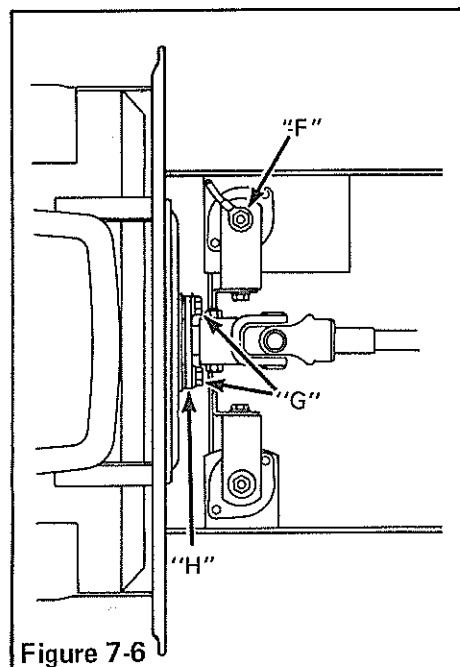

Figure 7-6
7. Remove R.H. rear engine mount bolt (F), Figure 7-6 & 7-7. Notice placement of star washer and negative battery cable.
8. Remove two bolts (G), Figure 7-6 securing engine hub to flywheel. Notice the flat washer between hub (H) and flywheel.
9. Scribe line on front engine supports and L.H. rear support along frame. Loosen two bolts (I) on each of the engine supports.
1. Set engine on R.H. rubber mount in rear. Lift engine and install (red) starter wire (K). Insert hub (H), Figure 7-6, of drive shaft into pilot hole in flywheel. Line up scribed line on front and rear engine supports with frame, insert two bolts (I) through each support. Secure mounts in place, holding with a gap of 1/2" (13 mm) between the bottom surface of the engine support and inside surface of the frame.
10. Unhook fuel tank strap and raise fuel tank to provide access to shut off valve. Close shut off valve (M) on bottom of tank.
11. Disconnect fuel line at filter (N) and pull fuel tank line thru engine cradle. This will prevent interference when removing engine.
12. Remove two screws securing guard (O) to rear engine mounts. Remove nut and bolt (P) from driveshaft. Slide driveshaft off the engine shaft.
13. Remove nuts and bolts from mounts, (Q), at rear of engine Figure 7-6. Remove same from mounts, (R), at front of engine, 7-5.
5. Install the guard (O), Figure 7-6, to the engine mounts.
7. Connect throttle cable (K) and choke cable (L), Figure 7-6. Route throttle cable thru heat shield first.